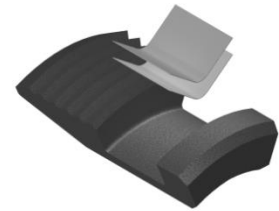

Fig. 5
**NOTE11:** Install two (2ea) springs per slip (Fig. 5).